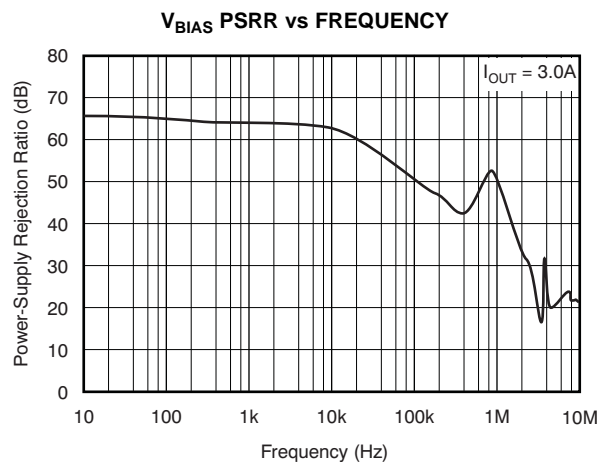
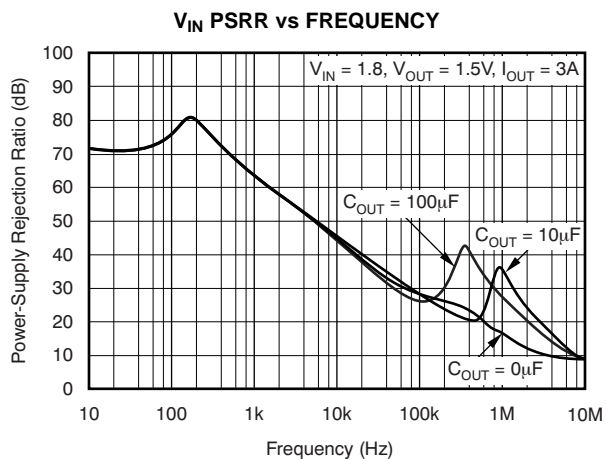

Figure 12.
Figure 15.
- (1) Adjustable devices tested at 0.8V; external resistor tolerance is not taken into account.
- (2) Dropout is defined as the voltage from the input to V_{OUT} when V_{OUT} is 2% below nominal.
- (3) I_{FB} , I_{SNS} current flow is out of the device.
- (4) See Figure 12 to Figure 15 for PSRR at different conditions.